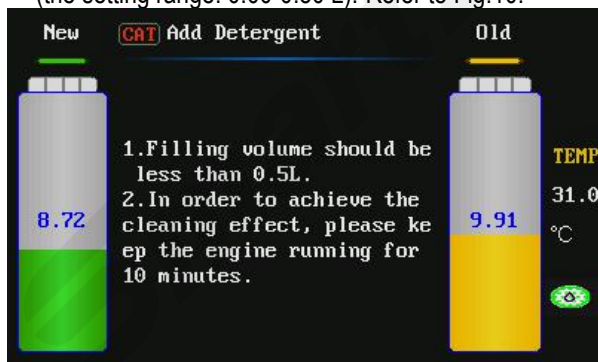

Fig.10
- 1) Select the function of "Add ATF detergent" in main menu, and set the amount of the detergent to be filled (the setting range: 0.00-0.50 L). Refer to Fig.10.